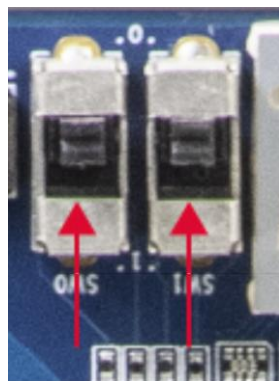

Figure 4-11 SW0[1:0] on HAN
9. Set SW[1:0] of the HAN board to ”00” as shown in Figure 4-11.